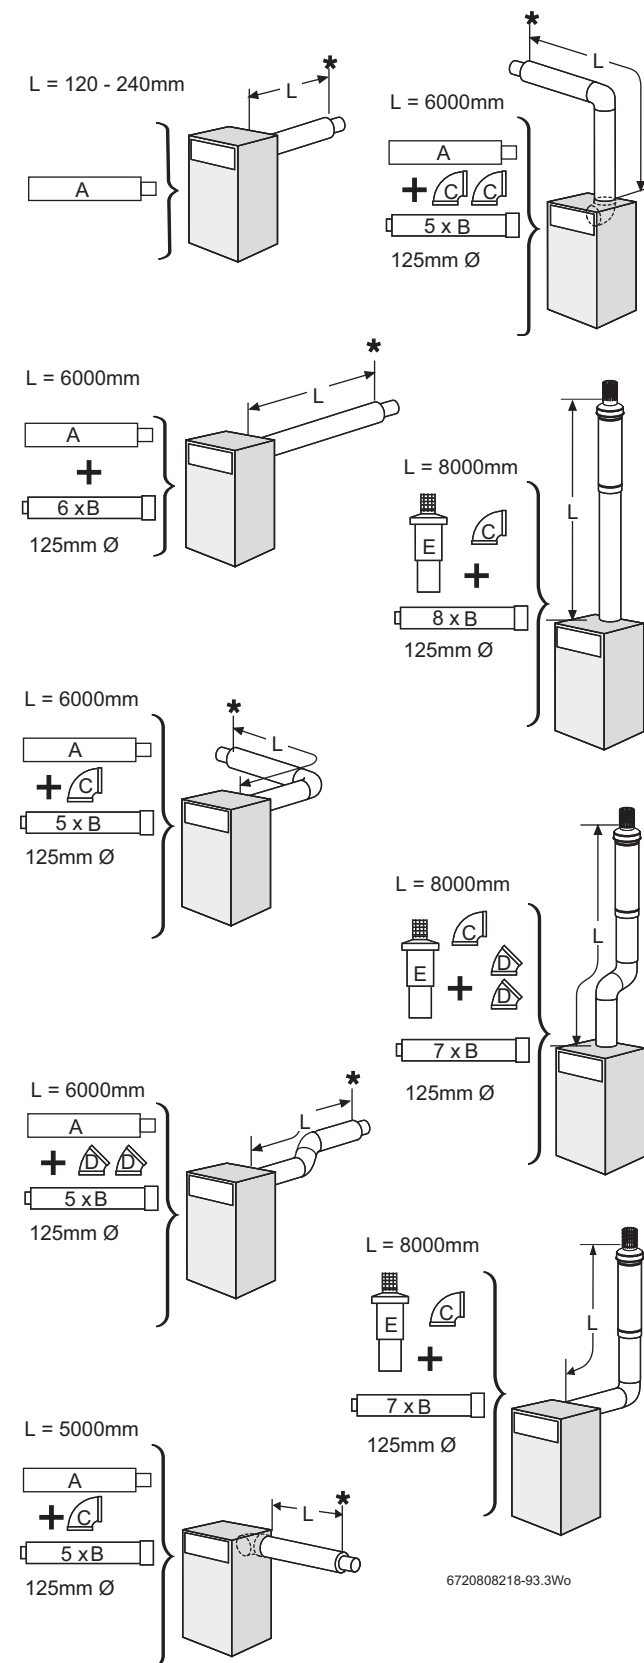

Fig. 29 Room sealed flue options
Figure 29 shows the components used and the maximum flue length (L) for each flue configuration.